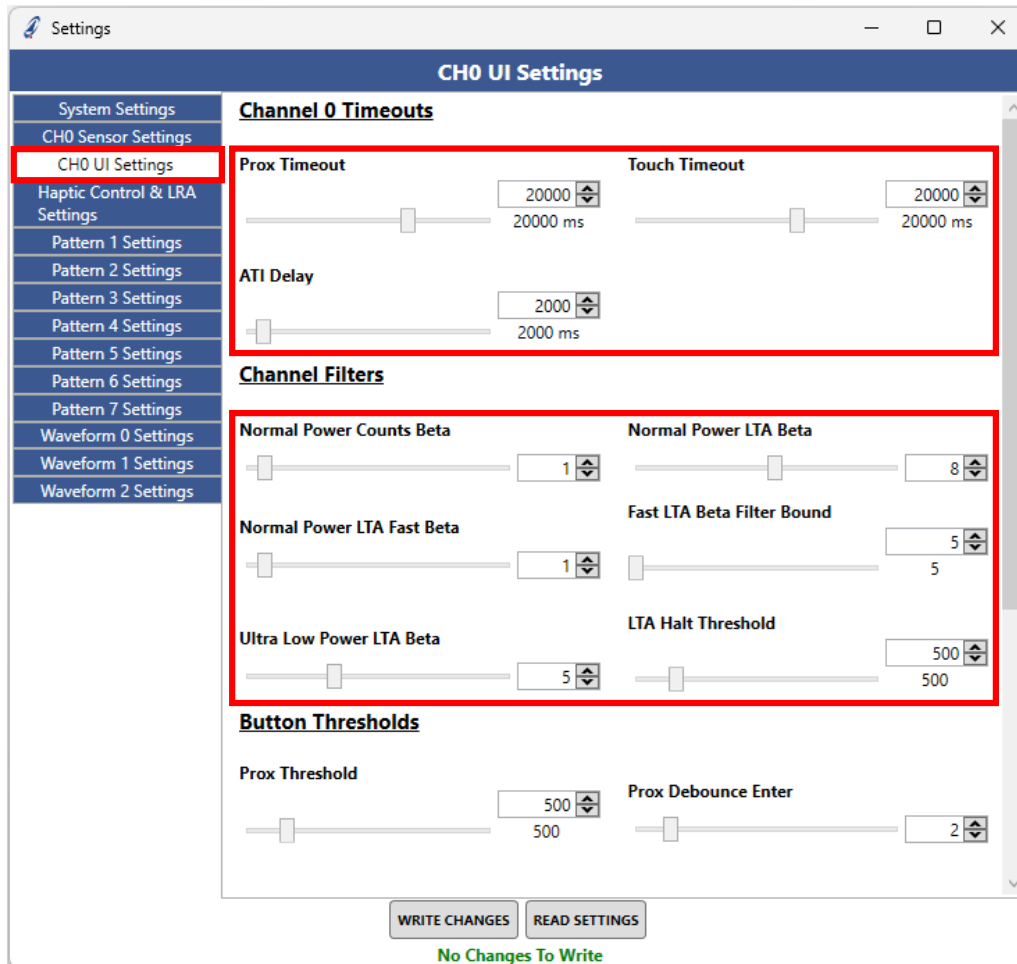

Figure 4.4: Channel 0 Timeout and Filter Settings
The “User Interface (UI) Settings” tab can be used to configure the channel event timeout and filter settings as shown in Figure 4.4. Other settings, such as channel proximity and touch thresholds, debounce values, and hysteresis settings, can also be configured as shown in Figure 4.5.